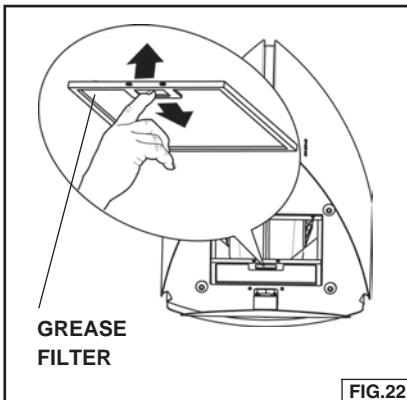

FIG.22
2. Insert the grease filter. Fig. 22.